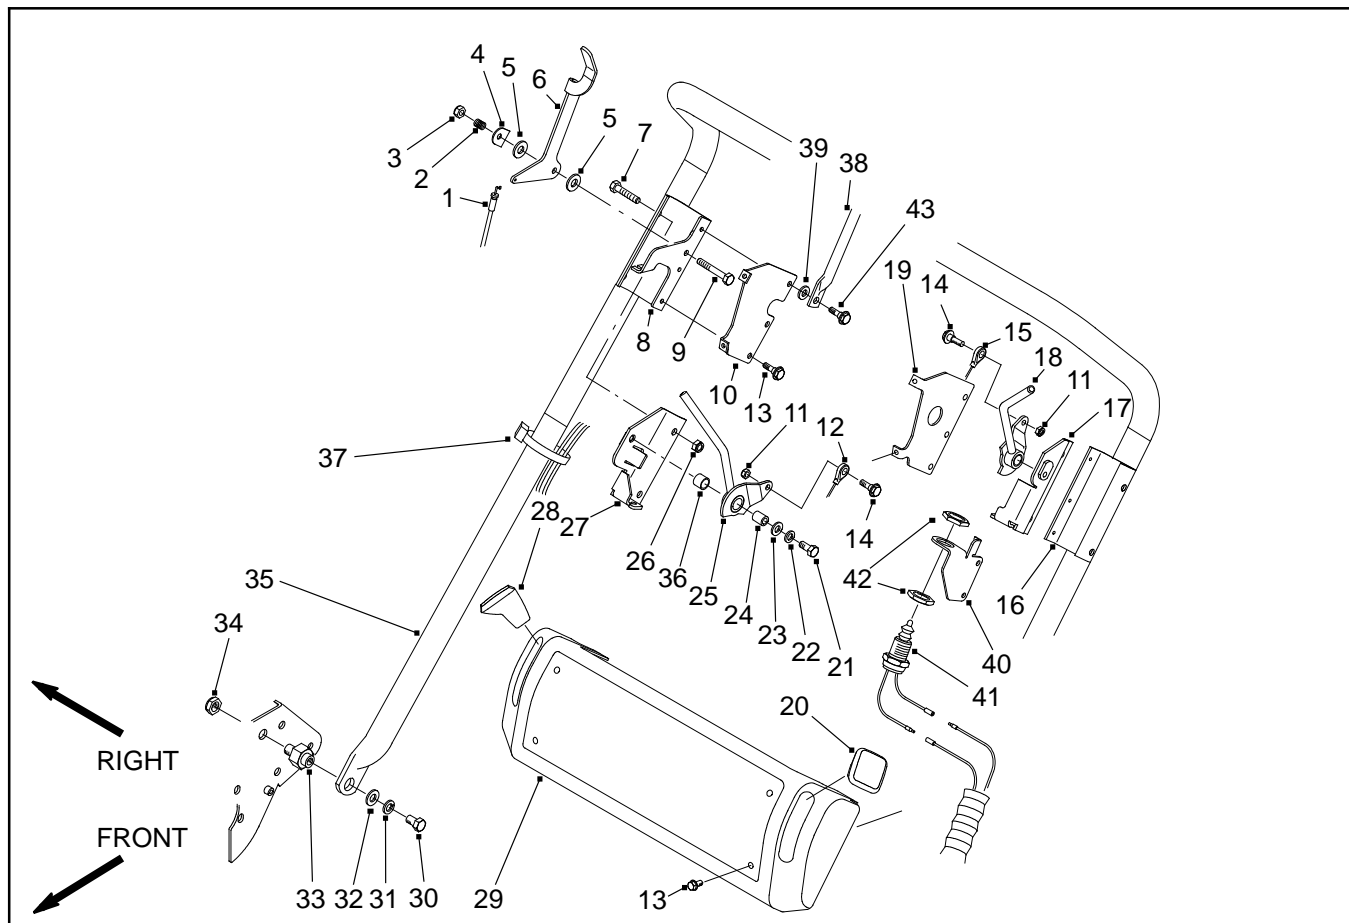

Figure 2
3. Remove cap screw (30), spring lock washer (31), and flat washer (32) from each handle pivot pin (33) on each of the handle (35) ends (Fig. 2 and 3).
1. Slide handle ends through the holes in the handle arms. Squeeze handle ends inward. Install handle ends to the handle pivot pins (33) on each side of the frame. (Fig. 2 and 3).
3. Install cap screw (30), spring lock washer (31), and flat washer (32) to each handle pivot pin (33) on each of the handle (35) ends (Fig. 2 and 3).
4. Make sure brake is disengaged and the clutch is engaged so the console (29) can be positioned to access the brake lever (18) and brake cable (15) (Fig. 2).
5. Remove four screws (13) securing the console (29) to the console brackets (10 and 19). Position console forward and away from the brackets (Fig. 2).
Note: On models without the operator presence kit, the bail assembly, switch, and switch bracket are not installed on the handle assembly. The shoulder bolt and spacer are substituted by an additional screw on both sides of the handle assembly (Fig. 2 and 6).
7. Remove shoulder bolt (14) and lock nut (11) from the brake lever (18) and brake cable (15) eyelet (Fig. 2).
8. Loosen nut securing the brake cable (15) to the brake bracket (17). Remove cable from the bracket. Remove brake cable from the mower.